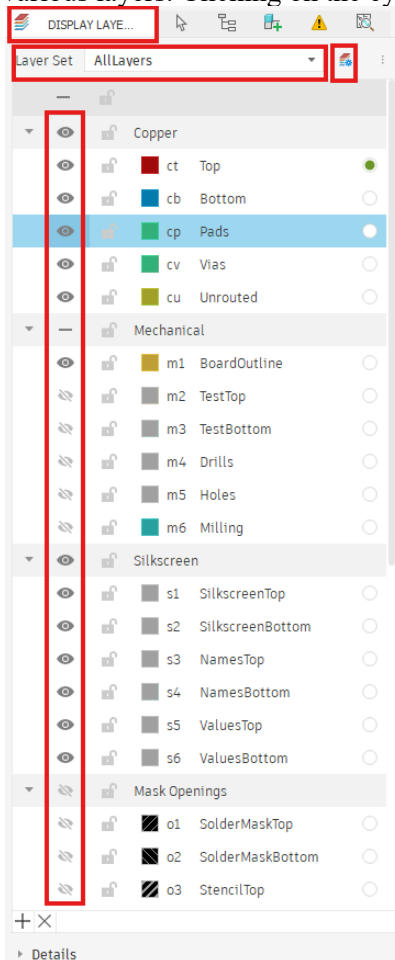

Figure 25: The various layers associated with the regulator board.
Use **Figure 25** for reference, first to remove the document information, go to Layer Sets manager , and add Valuestop and Valuesbottom to Preset_standard in this set. Then chose the same layer set in the drop-down menu.
3.24: The Display Layers menu item (the menu item on the left tab) gives us a look at the layers associated with this board. Figure 25 shows the various layers. Clicking on the eye icon turns the layers on and off.